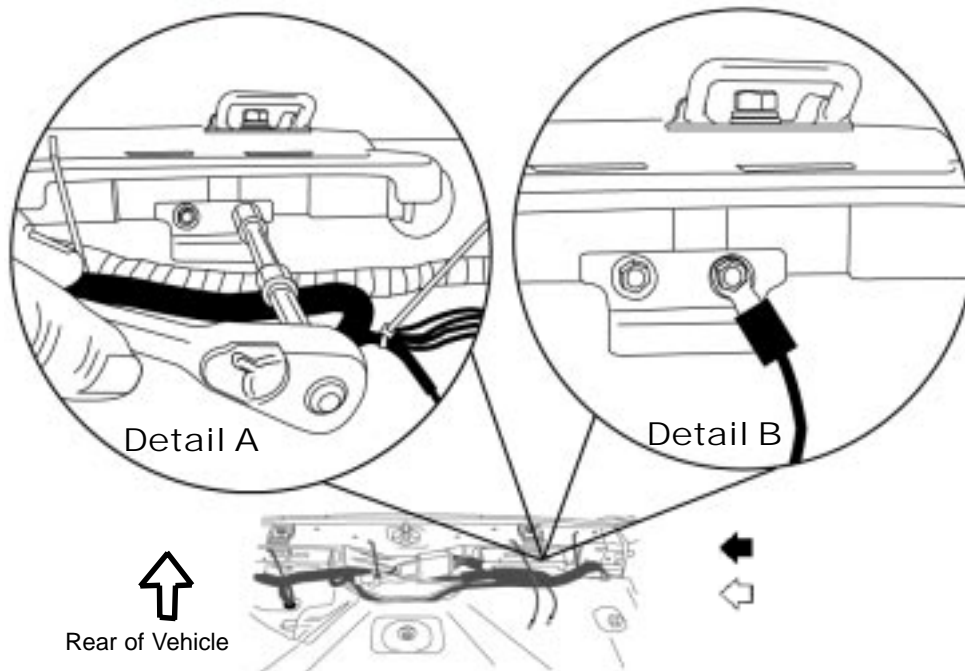

Figure 25.
- 6.) Using a 10 mm socket wrench with a 6" socket extension, remove one nut from the rear gate trim mounting bracket studs (Detail "A" Figure 25.).
- 7.) Place the ring lug of the ground wire over the mounting bracket stud and reinstall the nut removed in step 6. (Detail "B" Figure 25.).